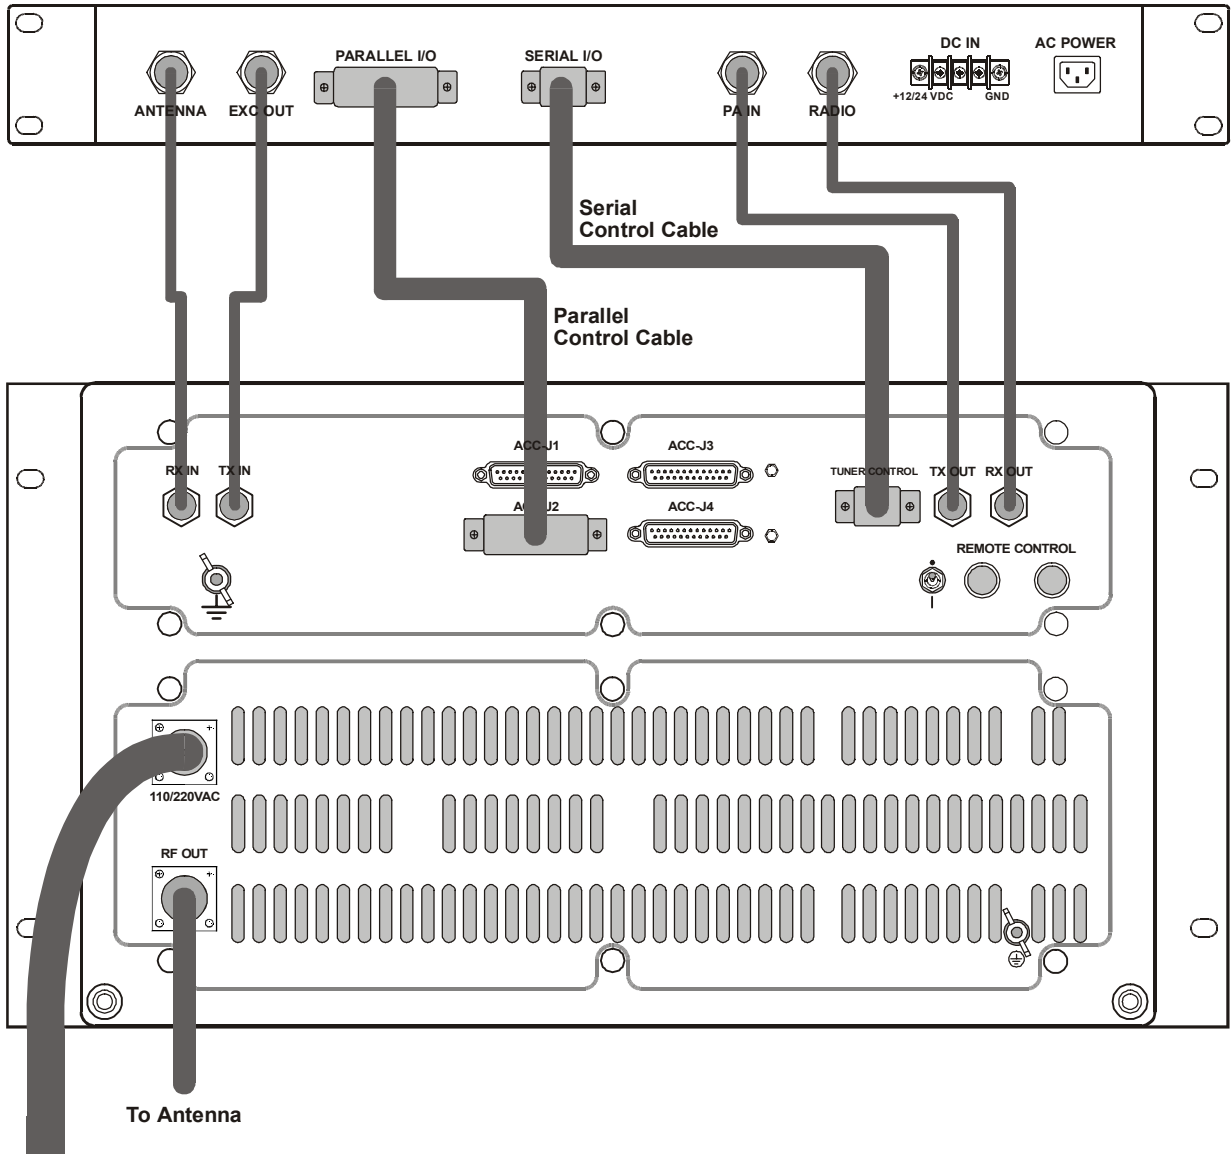

Figure 5. Connections to Optional PPS
To use the PPS, order the RM500/RM500R with option G65. The connections between an RM500/RM500R with option G65 and the PPS are shown in Figure 5.
6. Refer to Figure 5 and connect cables between RM500/RM500R and the PPS as follows: